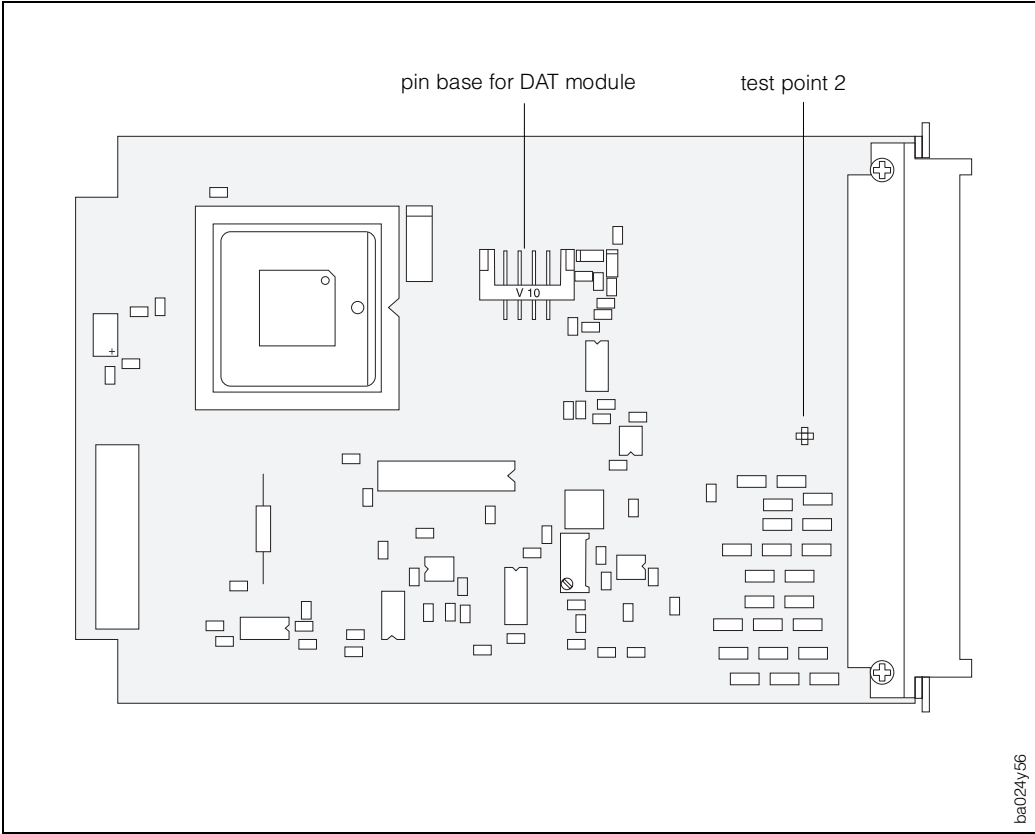

Fig. 47
5. If necessary, pull out the DAT module from the pin base concerned (Fig. 47: V10) on the amplifier board: